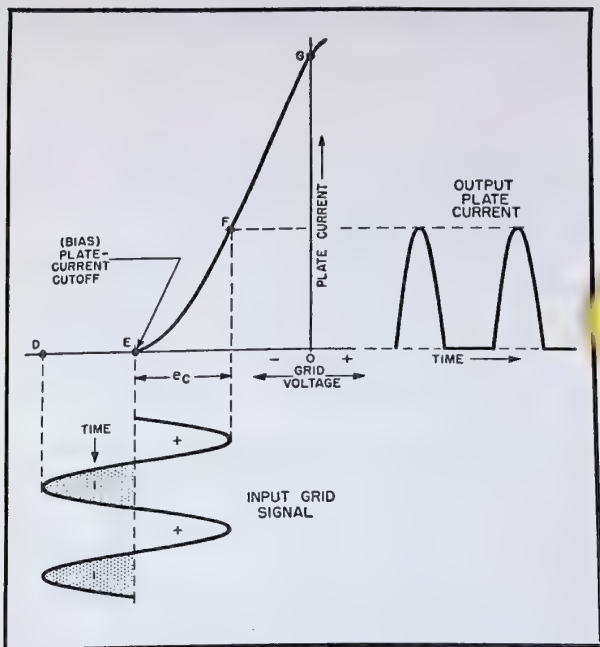

Fig. 11-7. Class B amplifier characteristics.
**Class B Operation.** A class B amplifier is one that is biased at or near cutoff (Fig. 11-7). Plate current flows during the positive